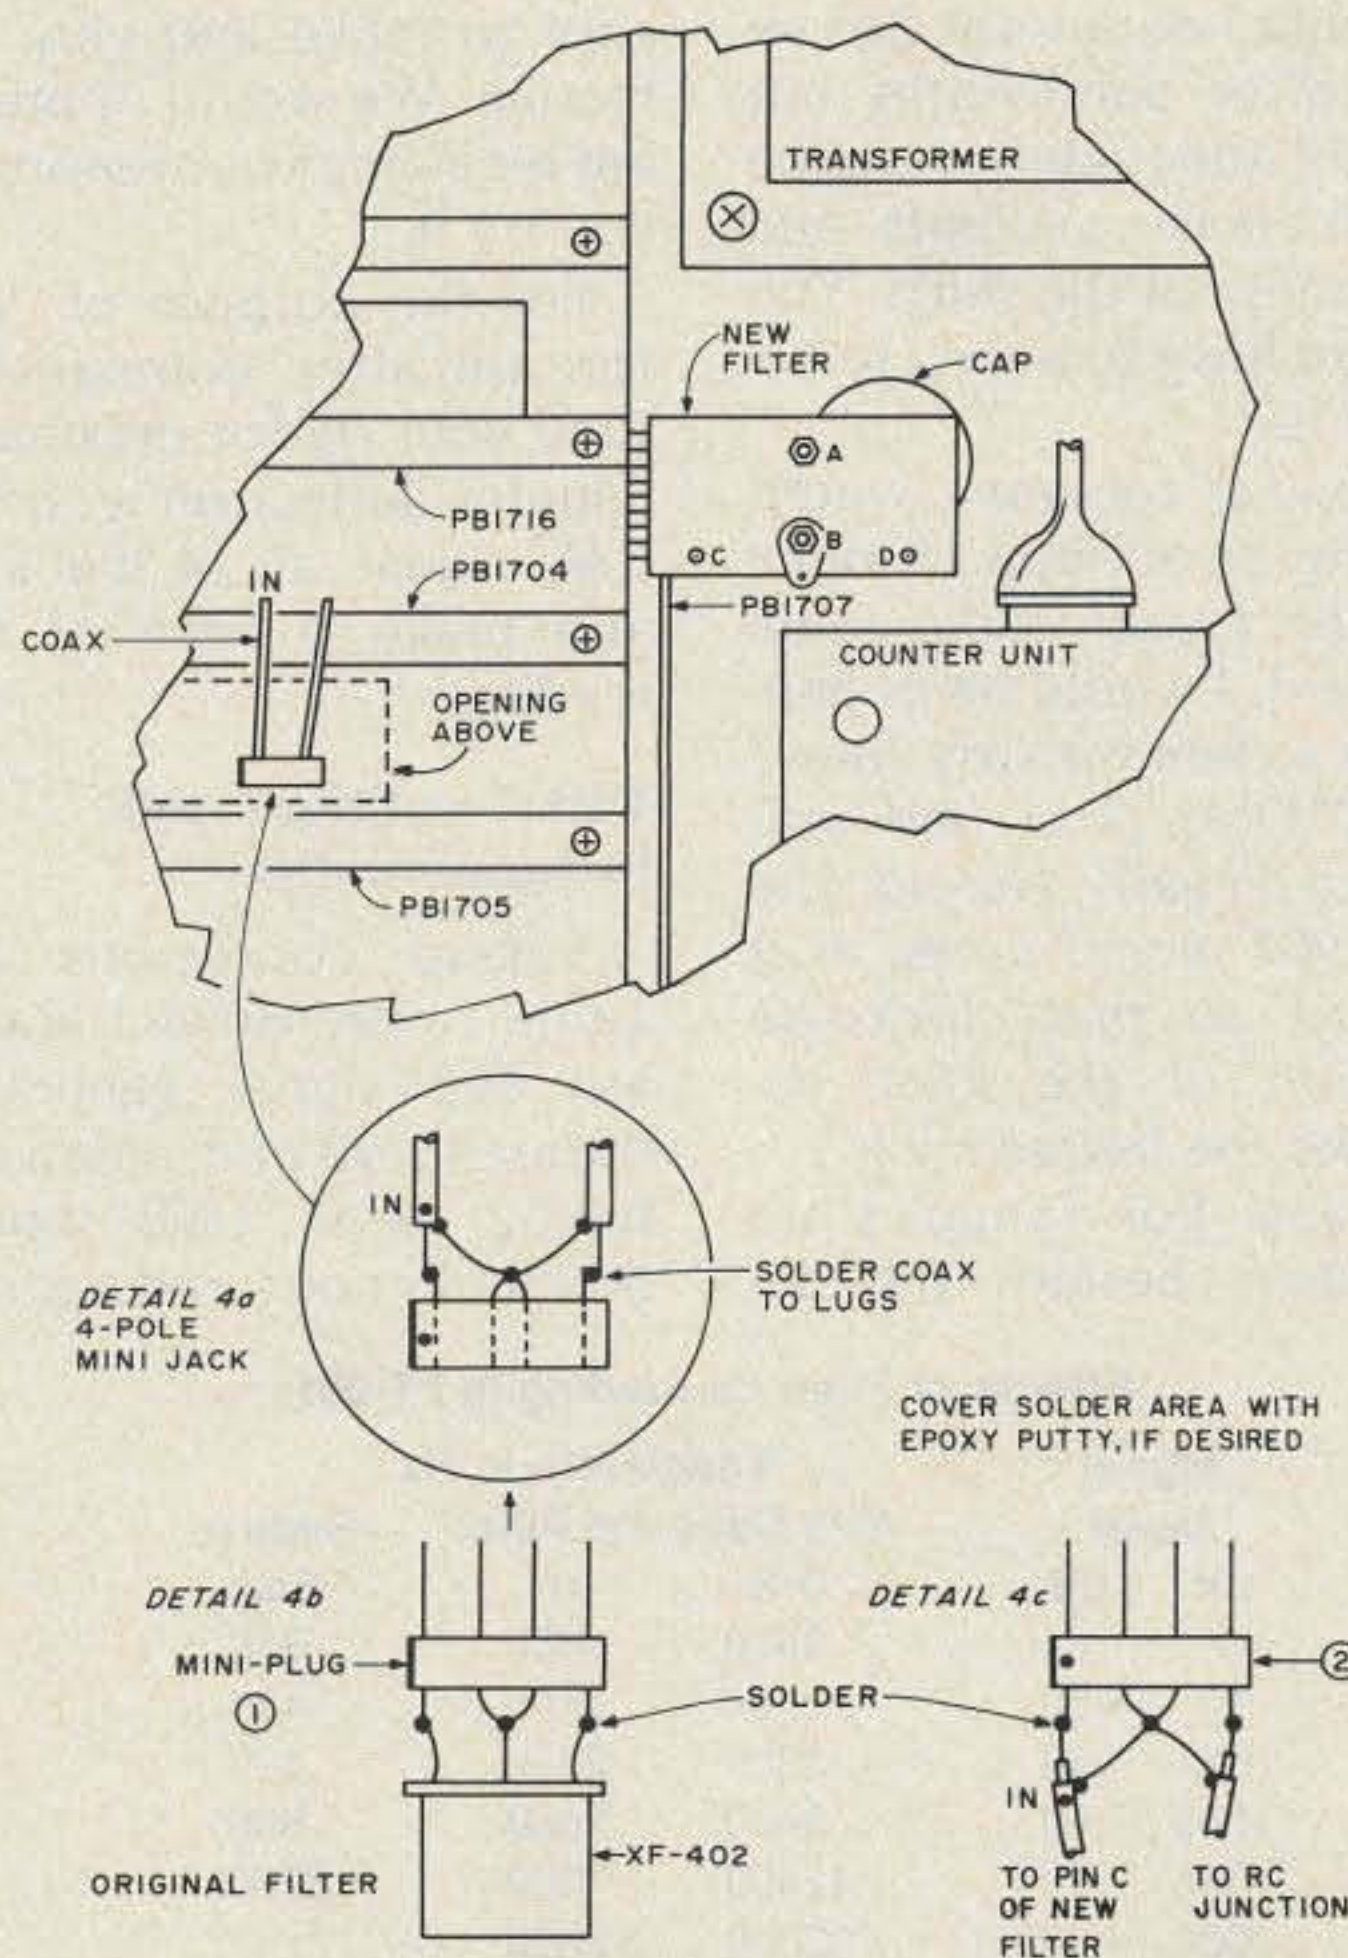

Fig. 4. Pictorial showing placement of new filter and its related connectors and cables.
tangular opening in the black panel. Cut the coax at the front end of the opening. (See Fig. 4.) It is important to identify the IN lead with a bit of white tape, paint, etc. Once again, take off the plastic panel and remove PB-1704 to simplify making the connections shown in Detail 4a.
1. See Fig. 4. Mount the ground lug on filter stud B using the nut and star washer unless one is stamped into the lug itself. Rest the filter on top of the black cylindrical filter capacitor and slide it towards the left until it touches the metal shield of the circuit board compartment. It will be secured at this point later with special copper double-stick tape (for grounding the filter case) called a "Mount-It."